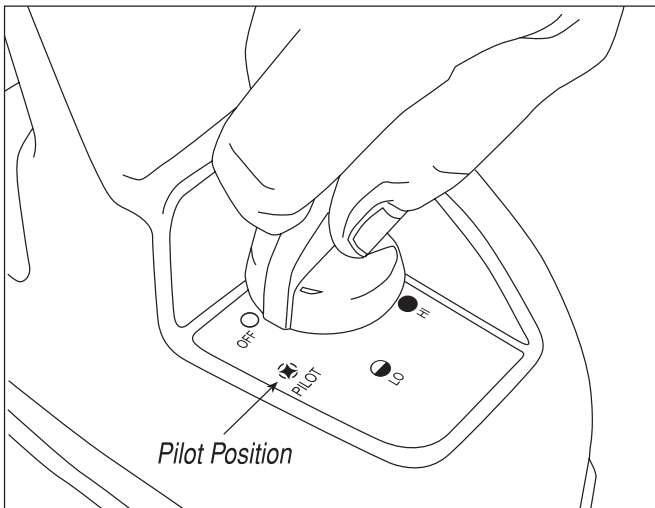

Figure 1
- Make sure four-position Control Knob is in "OFF" position; see Figure 1.
- Make sure four-position Control Knob is in "OFF" position; see Figure 1, at left.